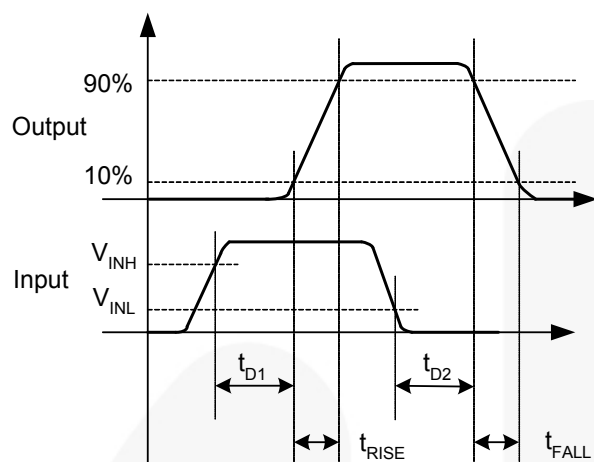
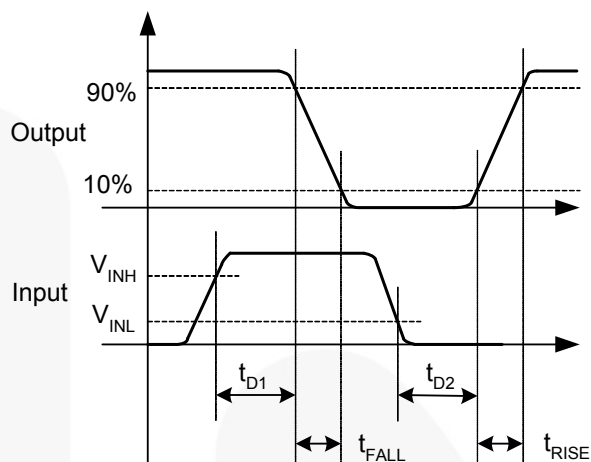

Figure 7. Non-Inverting
Figure 8. Inverting
10. See *Timing Diagrams of Figure 7 and Figure 8*.